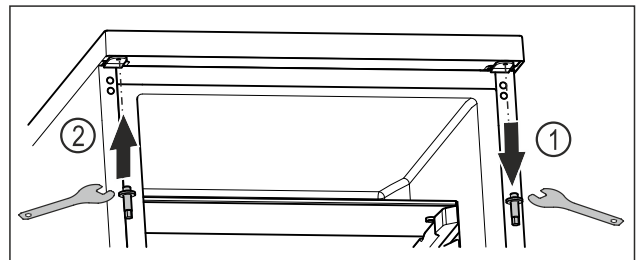

Fig. 15
- Unscrew the upper bolt with an Allen key. Fig. 15 (1)
- Tighten the bolt on the opposite side with an Allen key. Fig. 15 (2)